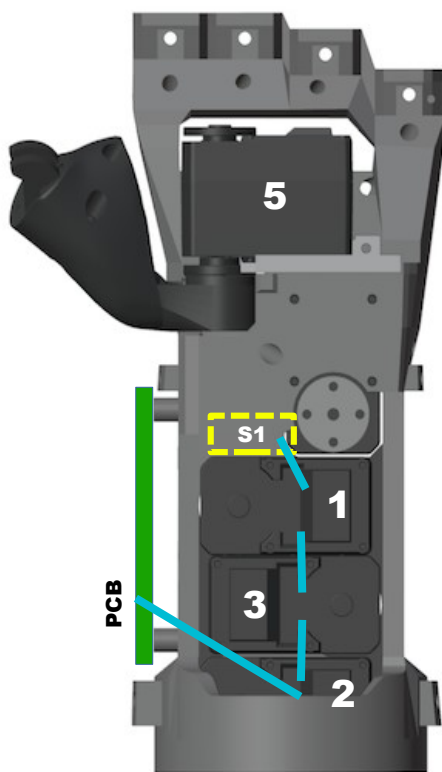

Figure 5.12: Front view. ID Servomotors, logic board PCB and cavity S1 e cavita S1
1. Install the logic board on the skeleton as shown in figure 5.12, using 4 M2 self-tapping screws, 6.5 mm long.